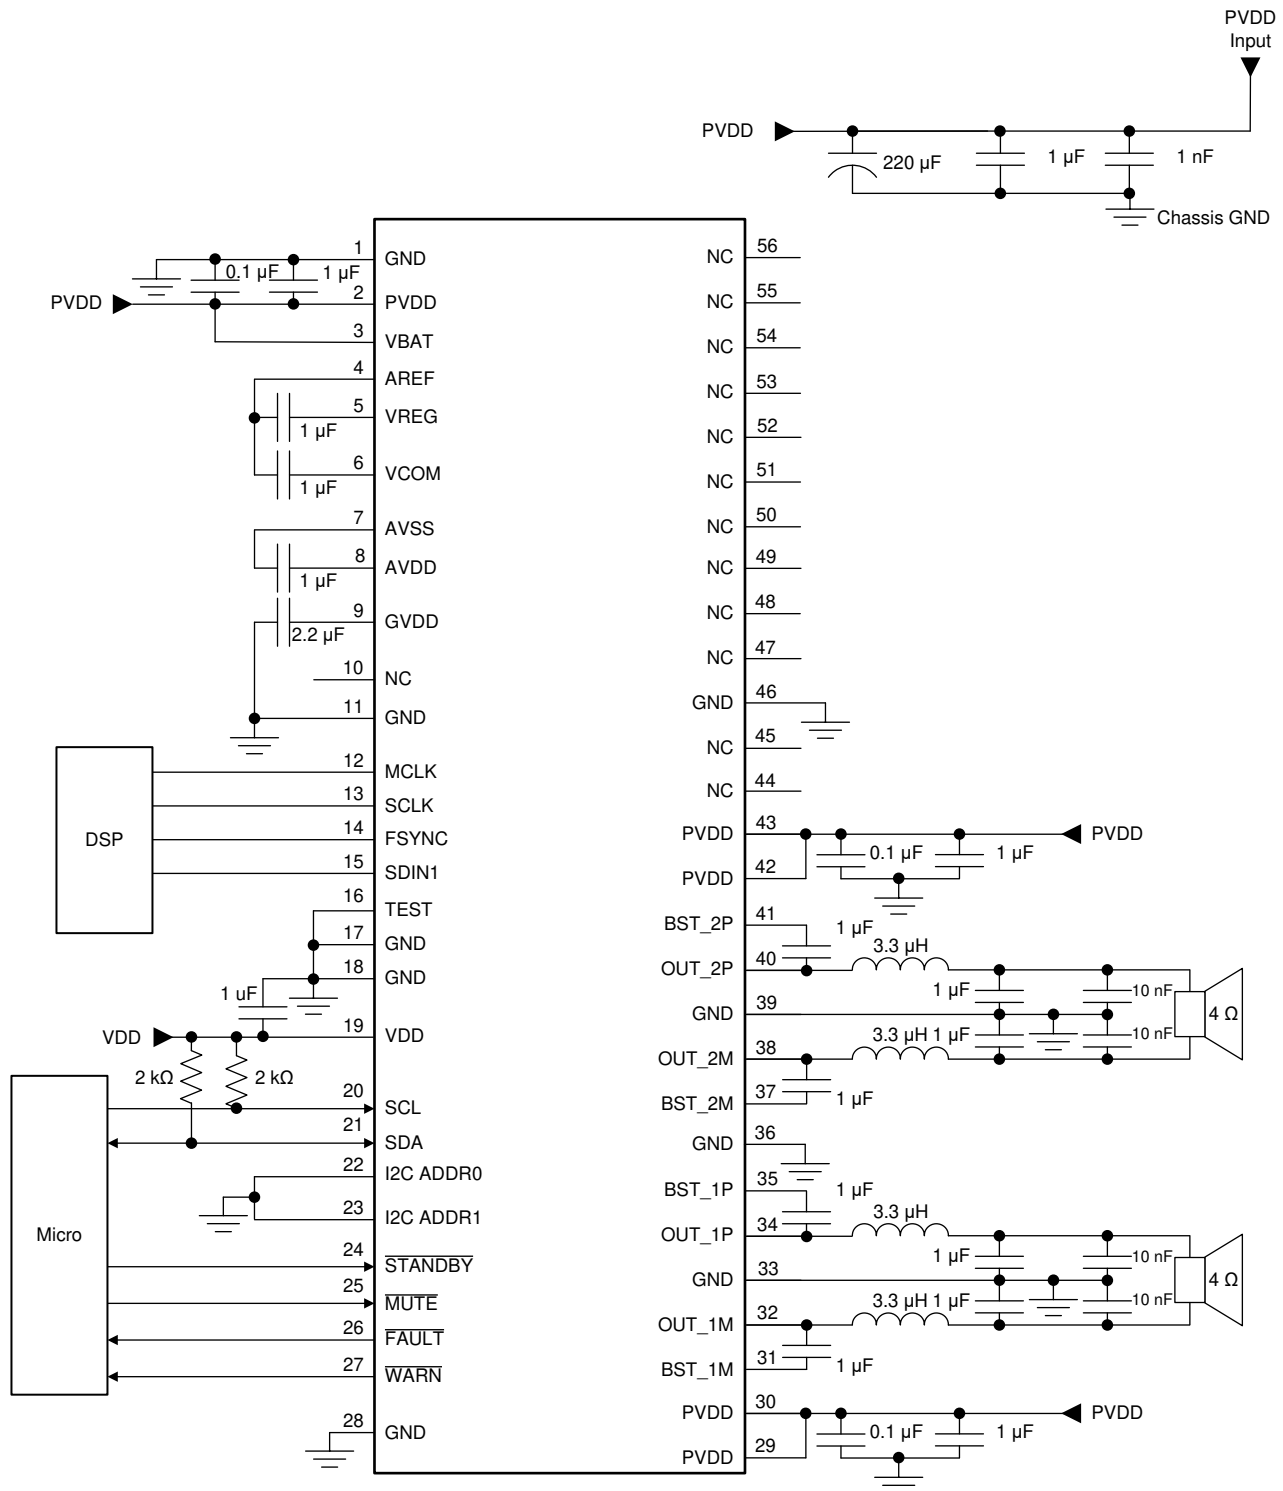

图 10-2. Typical 2-Channel BTL Application Schematic
图 10-2 shows the schematic of a typical 2-channel solution for a head-unit application.
- With the requirements, adjust the typical application schematic in Figure 10-2 for the input connections.